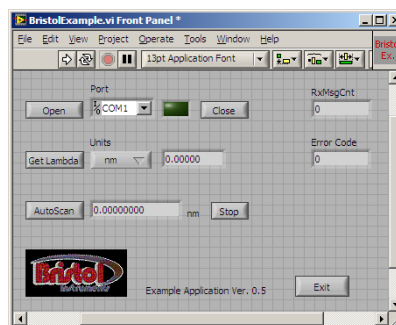

Figure 6.3: Sample BristolExample.vi.
- 1 On the BristolExample.vi Front Panel, shown in Figure 6.3, choose the appropriate com port from the pull-down list under the label “Port.” The appropriate com port is the same port that was indicated in the PC's device manager when the instrument software was initially installed.